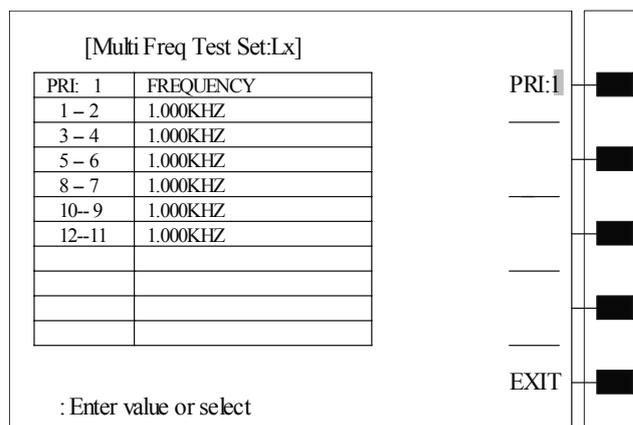

Figure 3-2-4-8
- II. Press **[Multi-freq]** soft-key to enter into **< Multi freq test set: Lx>** page layout which is showed as figure 3-2-4-8: